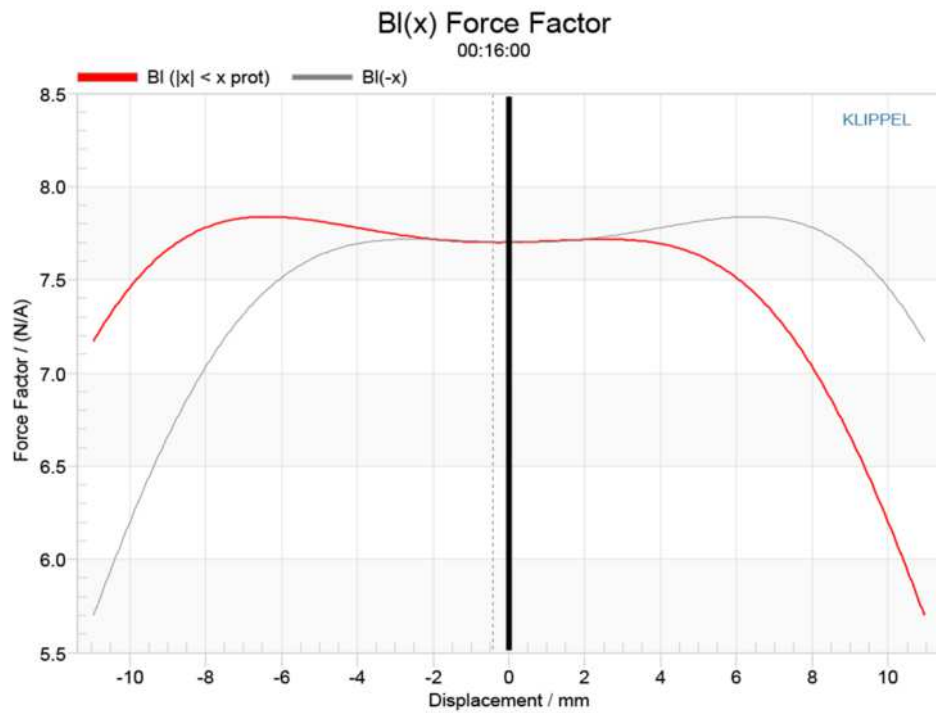
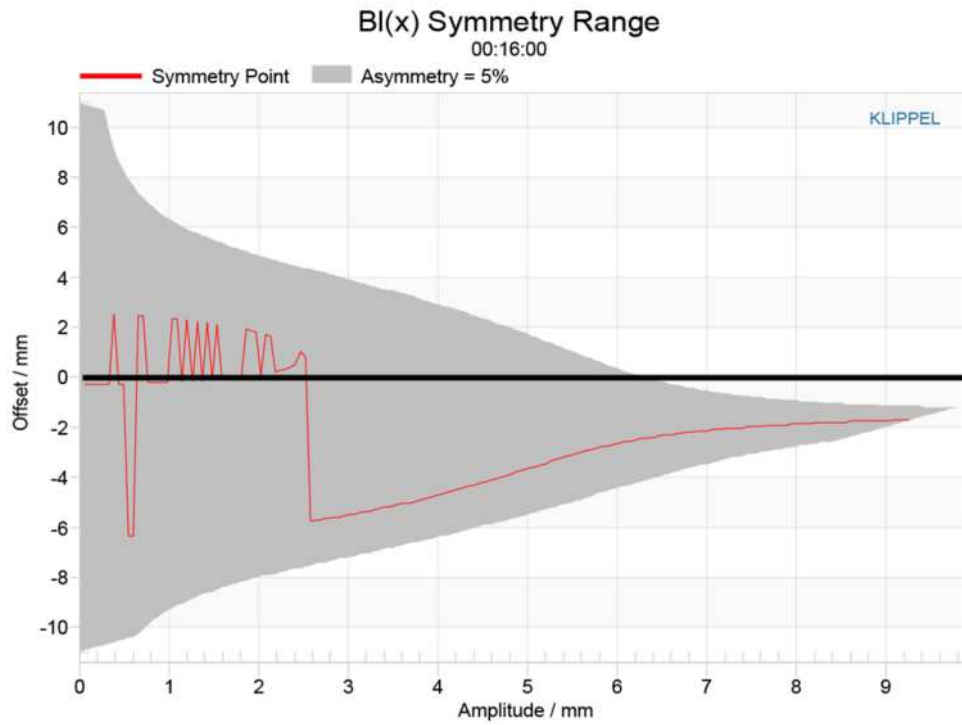

Figure 5: Klippel Analyzer BI(X) curve for the Purifi PTT5.25X-NFA-01.
Figure 6: Klippel Analyzer BI symmetry range curve for the Purifi PTT5.25X-NFA-01.
Klippel analysis for the Purifi 5.25" woofer was performed by Warkwyn (Jason Cochrane performed the analysis) with the Klippel KA3 analyzer. The BI(X) curve for PTT5.25X shown in Figure 5 is reasonably flat and broad, especially for a 5.25" driver, but with a small amount of "tilt" and offset. The BI symmetry curve in Figure 6 shows coil-in offset of 2.1mm offset at 7mm decreasing to about 1.2mm at the 9.8mm (physical Xmax) excursion point. Not perfect, but nothing that is all that extreme either.